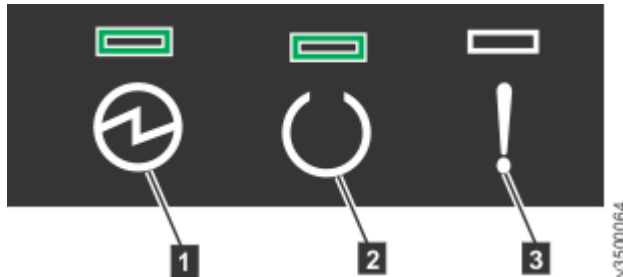

Figure 66. Node canister LEDs
4. From the rear of the control enclosure, check the LEDs on each node canister (see Figure 66 on page 98).